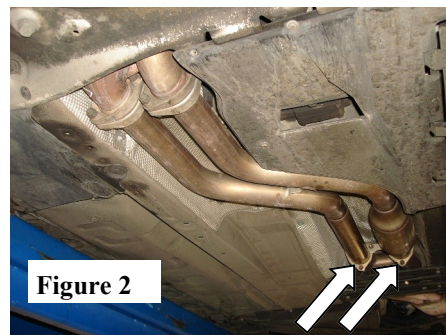

Figure 2
3. Using a muffler stand or an additional person to support the factory mid-pipe, unbolt the front/rear flange hardware. (See Fig. 2) Carefully remove mid-section muffler from vehicle.